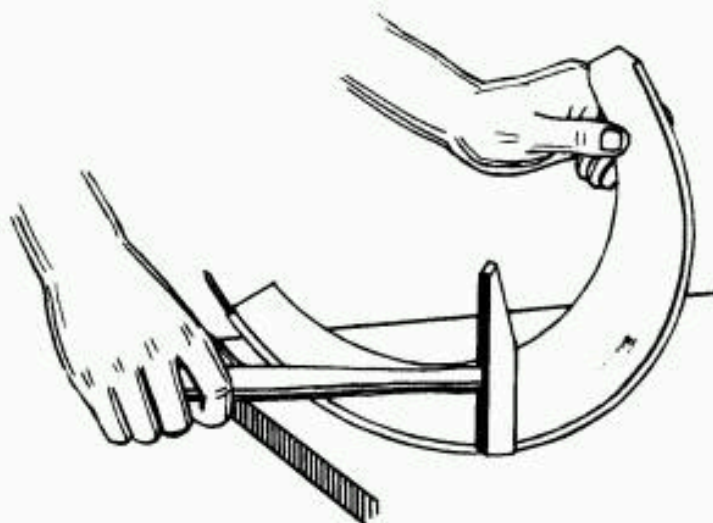

FIG. 7
6. Bend the metal over the wire as far as possible with the hammer. (Fig. 7).